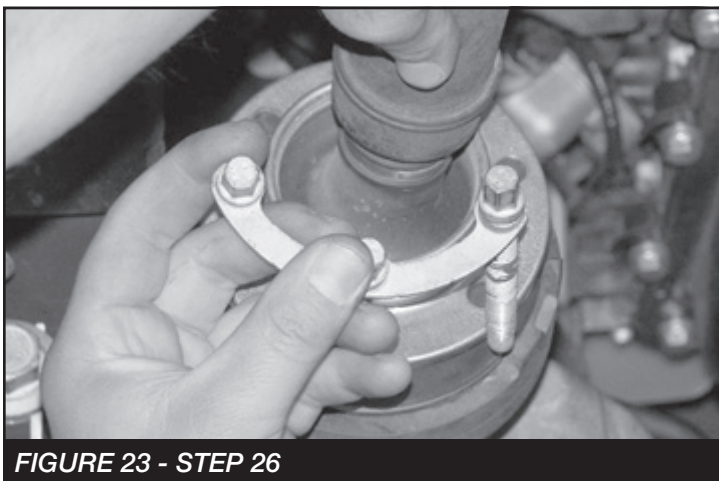

FIGURE 23 - STEP 26
26. Reinstall the front drive shaft with the factory hardware and torque to 35 ft-lbs. **SEE FIGURE 23**